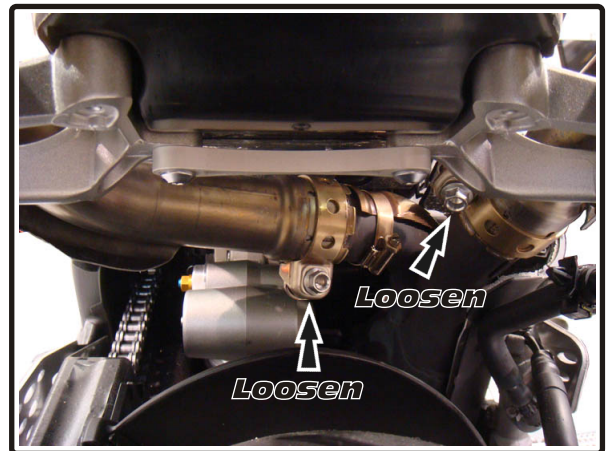

Fig. 3
4. Loosen tailpipe clamps. (Fig. 3)